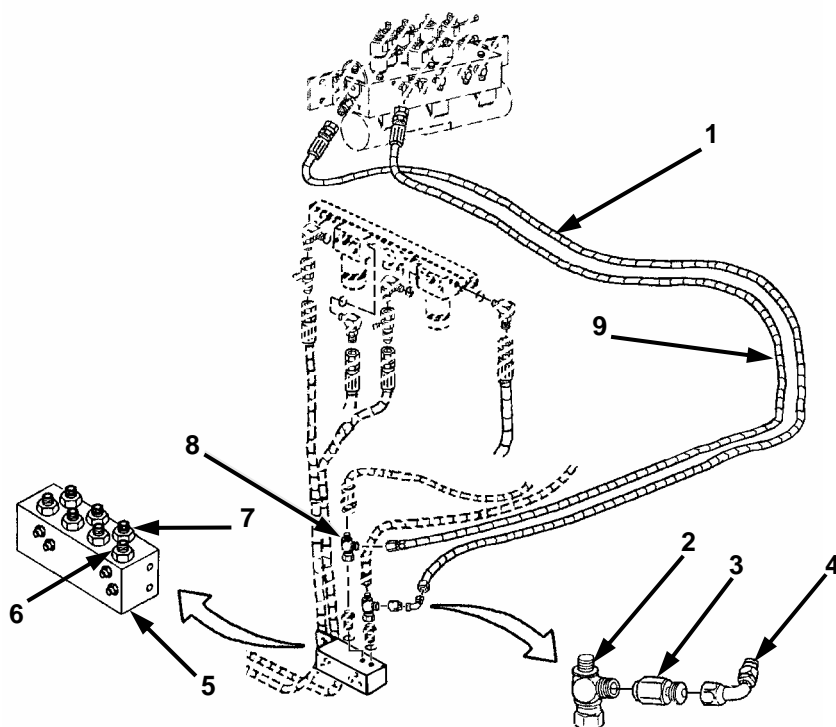

Figure 2-6. Manifold.
- e. Disconnect hose (Figure 2-6, 1), elbow (4), tube reducer (3) and tee (2) from manifold (5), port 7 (6) and set aside for disposition per Chapter 1, Section 1-8, step c.